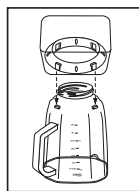

Fig. 15
- a. For models with Boroclass® glass jar only, turn jar upside down and place the collar on the small/ bottom opening of the jar ensuring the notches in the collar fit into the four tabs on the jar (Fig. 15).